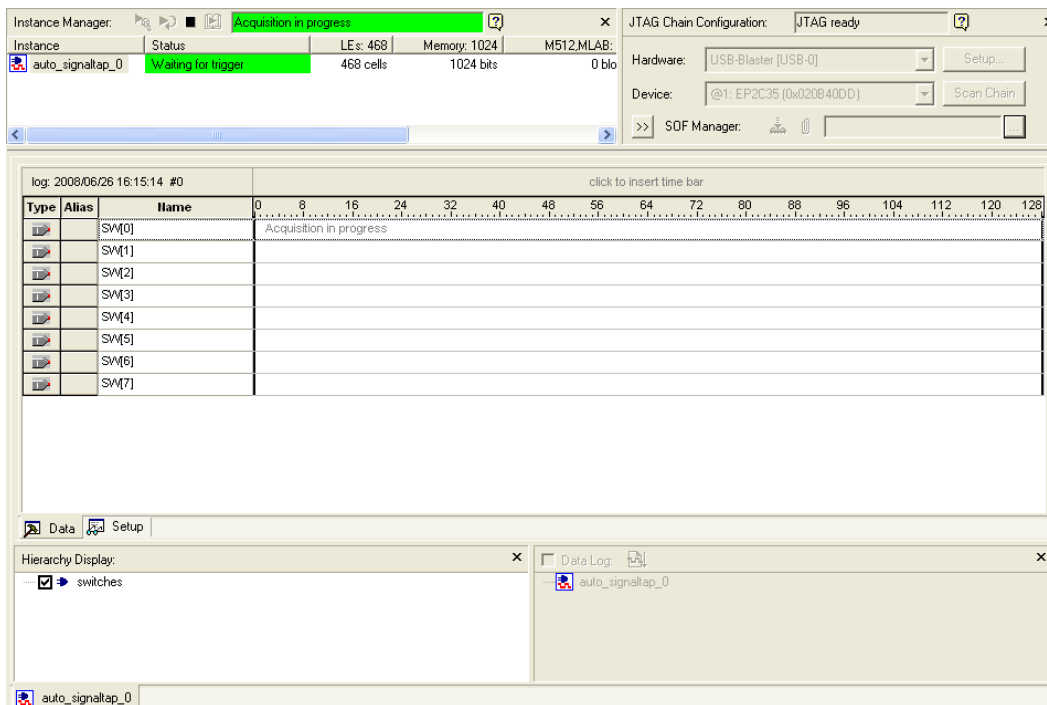

Figure 11. SignalTap II window after Run Analysis has been clicked.
- Before the SignalTap analyzer can work, we need to specify what clock is going to run the SignalTap module that will be instantiated within our design. To do this, in the Clock box of the Signal Configuration pane of the SignalTap window, click ..., which will again bring up the Node Finder window. Select List to display all the nodes that can be added as the clock, and then double-click CLOCK_50, which results in the image shown in Figure 11. Click OK.
- In the SignalTap window, select **Processing > Run Analysis** or click the  icon. Then, click on the **Data** tab of the SignalTap II Window. You should get a screen similar to Figure 11. Note that the status column of the SignalTap II Instance Manager pane says "Waiting for trigger." This is because the trigger condition (Switch 0 being high) has not yet been met. (This is of course if Switch 0 is actually low as instructed in the previous step. If it is not, set it to low and then click Run Analysis again).